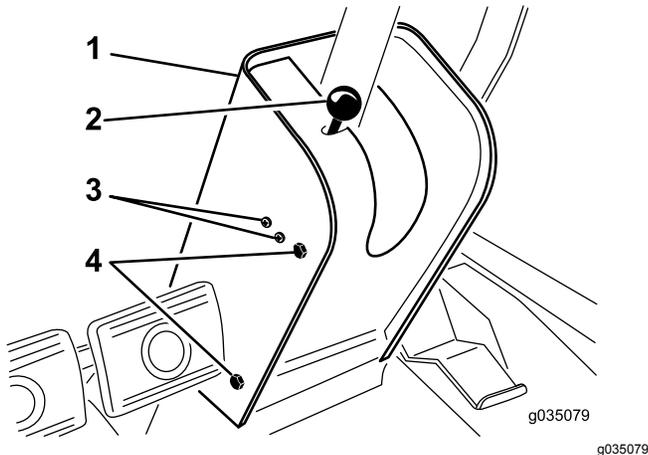

Figure 73
2. Remove the knob from the parking-brake rod and the screws from the steering-tower cover (Figure 73).
4. Loosen the screws and nuts that secure the parking brake switch to the left side of the steering tower (Figure 73).